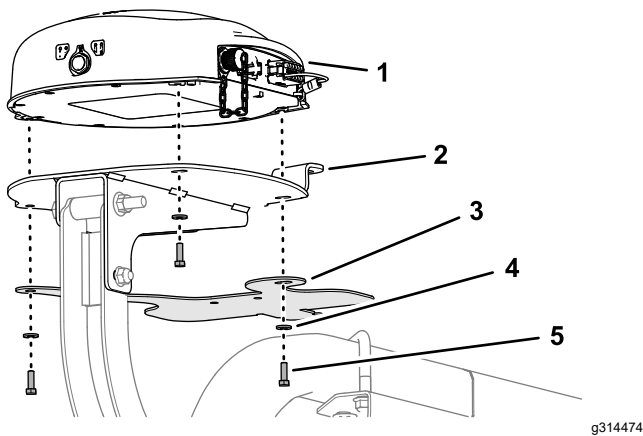
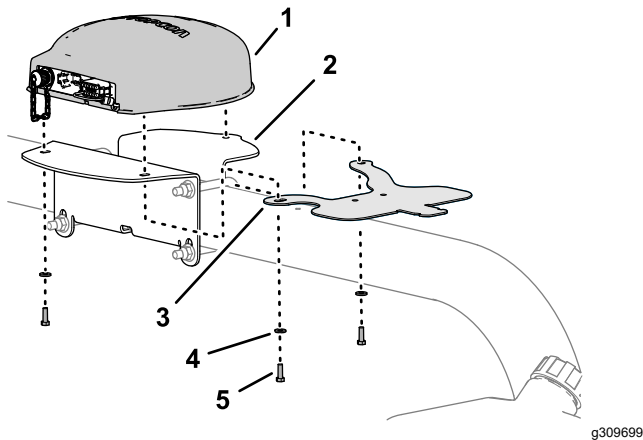

Figure 51
Figure 52
2. Align the hole and slot in the modem-antenna bracket with the holes in the receiver mount (Figure 51 or Figure 52).
3. Align the 3 threaded in the base of the navigation receiver to the 3 holes in the receiver mount (Figure 51 or Figure 52).
4. Assemble the navigation receiver and antenna bracket to the mount (Figure 51 or Figure 52) with the 3 capscrews (5 x 16 mm) and 3 washers (5 mm).